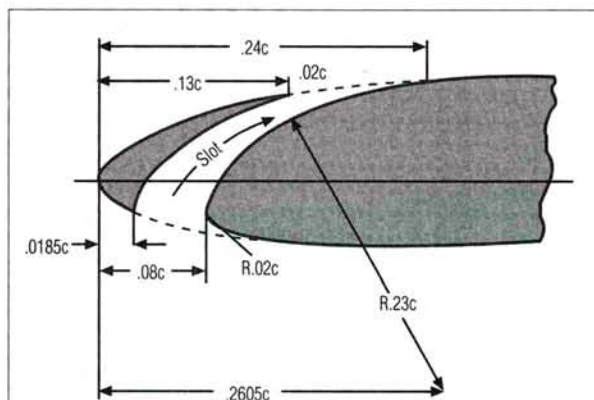
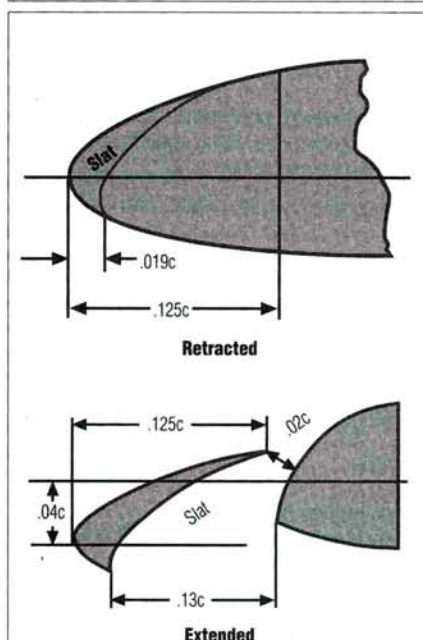
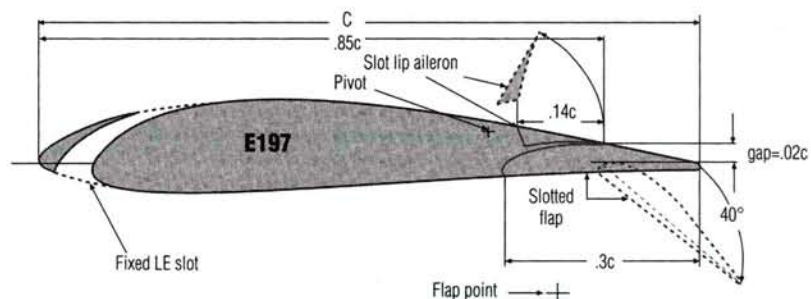

Figure 5. Geometry of the fixed leading-edge slot.
Figure 6. Geometry of the retractable leading-edge slot.
Figure 4. The Crow's wing airfoil section.
drag at 20 degrees extension, they may be used for takeoff to advantage. Figure 4 illustrates the flap design for the Crow's wing. The only disadvantage is the longer streamlined arms from flap to pivot point needed to provide the increased backward movement required. (The additional lift provided by various forms of flaps, alone and combined with leading-edge
• **Wing leading-edge high-lift devices: leading-edge slots.** Figure 5 illustrates fixed leading-edge slots; Figure 6, retractable leading-edge slots. Figure 7 shows the benefit of fixed leading-edge slots: an increase in C_L max of 0.4 and a delay in stall to a 9-degree
To this author, the added complexity of the retractable slat is not justified by its benefits. The Crow has full-span, fixed leading-edge slots, as shown in Figure 4.
• **Slot lip ailerons.** Illustrated in Figures 4 and 10, these replace normal ailerons when full-span flaps are used. On both the Crane (reference 13) and the Crow (see Figure 5 in the May issue), these have proven to be very effective, and they work inverted. At